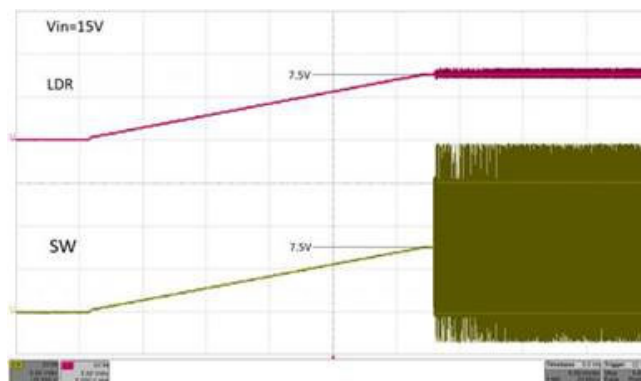

Figure 7: Soft-start Response
- The LDR (TEC+) output and SW pin voltage response should be similar to what is shown in Fig. 7.
- Entering the 'u' command disables the switcher output (SW) and resets the LT8722